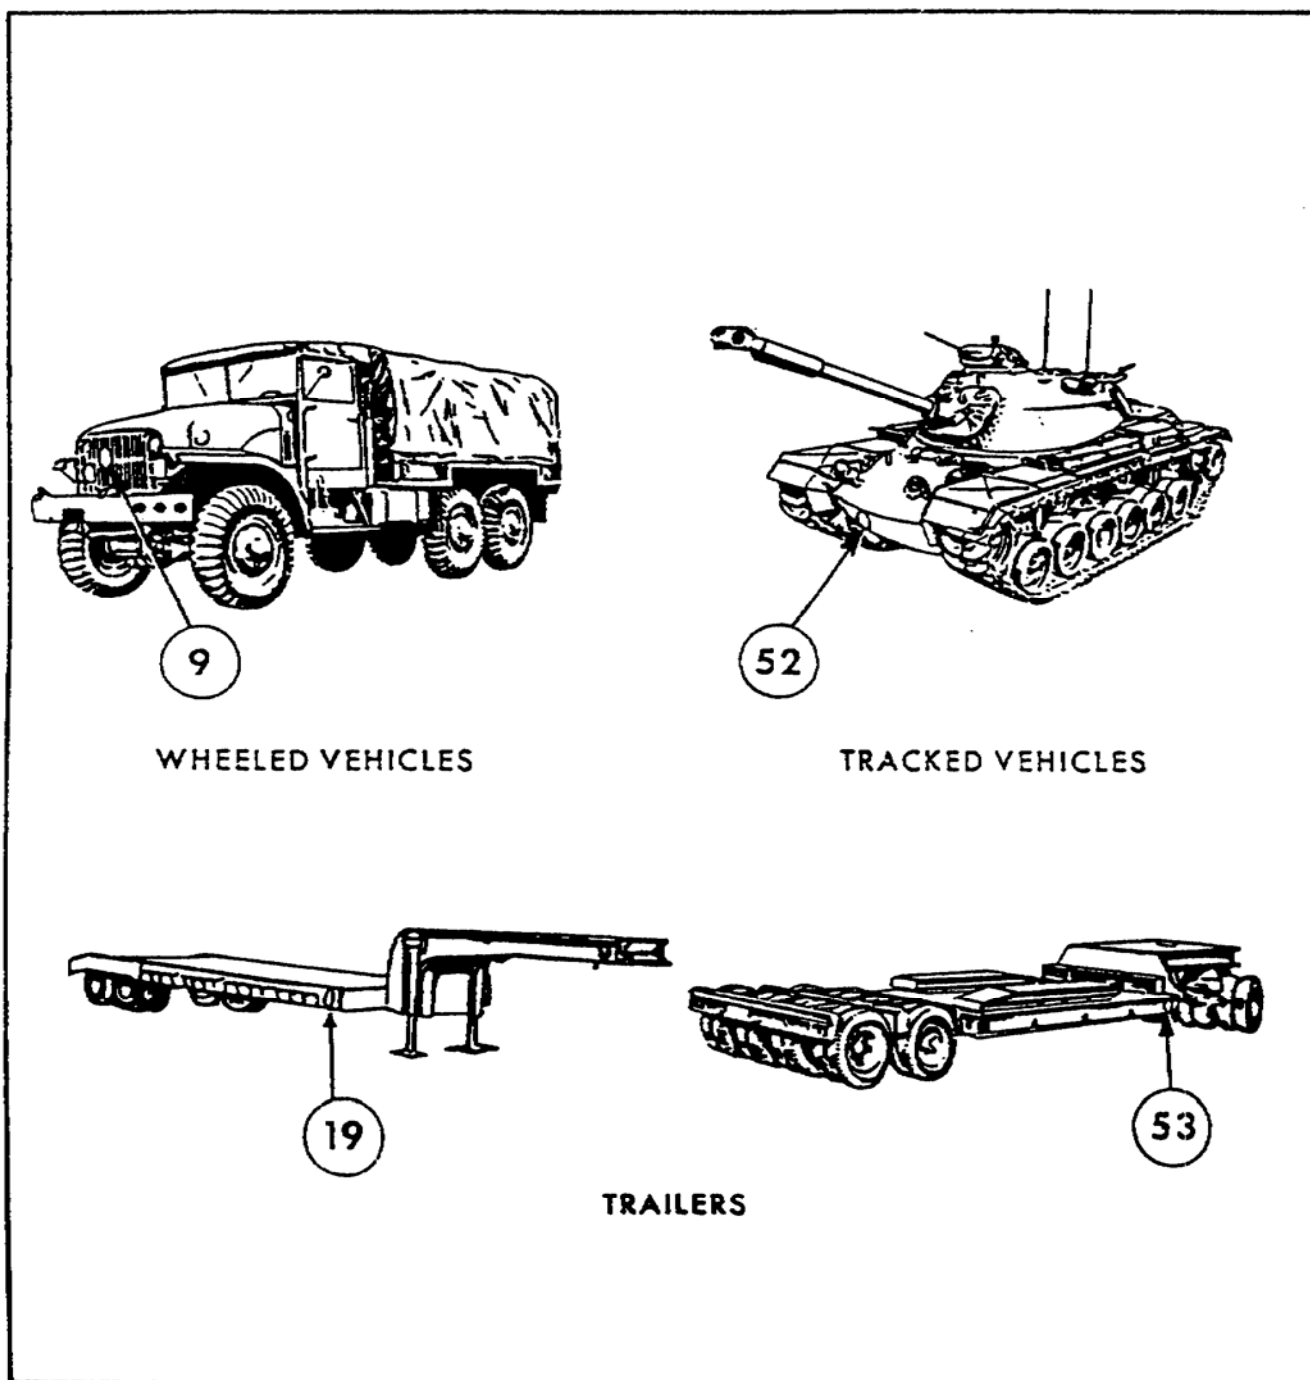

FIGURE 1-12. VEHICLE CLASSIFICATION MARKINGS.
(1) The military load classification system is a method of rating the load-bearing classification for vehicles, roads, and bridges. For vehicles, it is based on the weight, type (wheeled or tracked), and effect on roads of the vehicle. For roads and bridges, it is based on their ability to carry certain types of traffic without causing major damage to the road or bridge. The engineers classify roads and bridges based on their physical characteristics, the type and flow of traffic, effects of weather, and other special conditions. In cases where such a determination has not already been made, this would be a major item of information during a deliberate route recon. Under the load classification system, vehicles, roads, and bridges are given a whole number to indicate their classification. The numbers used range from 1 to 120. Most NATO vehicles are marked with their classification number. They are black numbers on a yellow/orange disk on the front, and sometimes on the side. See Figure 1-12.